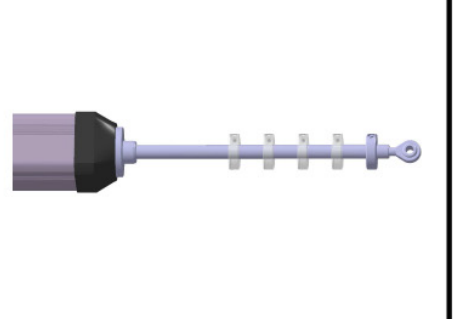

Fig.10
- 7) Once the motor is working correctly the limit valves can be adjusted **(Fig.10 Page 5)**. The limit valves control the force and are independent in opening (blue limit valve) and closing (red limit valve) the gate. The screws can be adjusted by turning them a maximum of 45° and should be adjusted slightly above the minimum, in this way the force of the hydraulic system is reduced thus increasing safety.